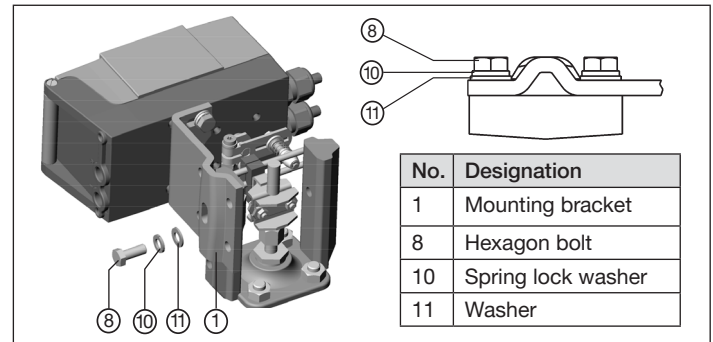

Fig. 14: Attaching the mounting bracket to the cast frame
Attach the mounting bracket to the cast frame using one or more hexagon bolts ⑧, the washers ⑪ and the spring lock washers ⑩ (see “Fig. 14”).